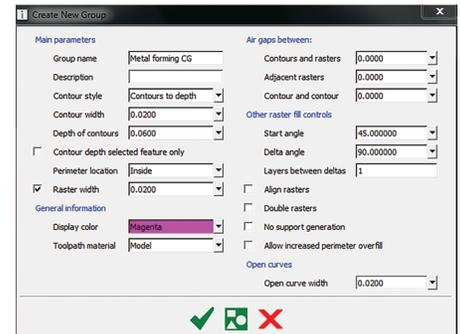

Figure 19: After slicing the form block, create a new custom group.
5.3.1. Create “Metal forming CG.” (Figure 19)